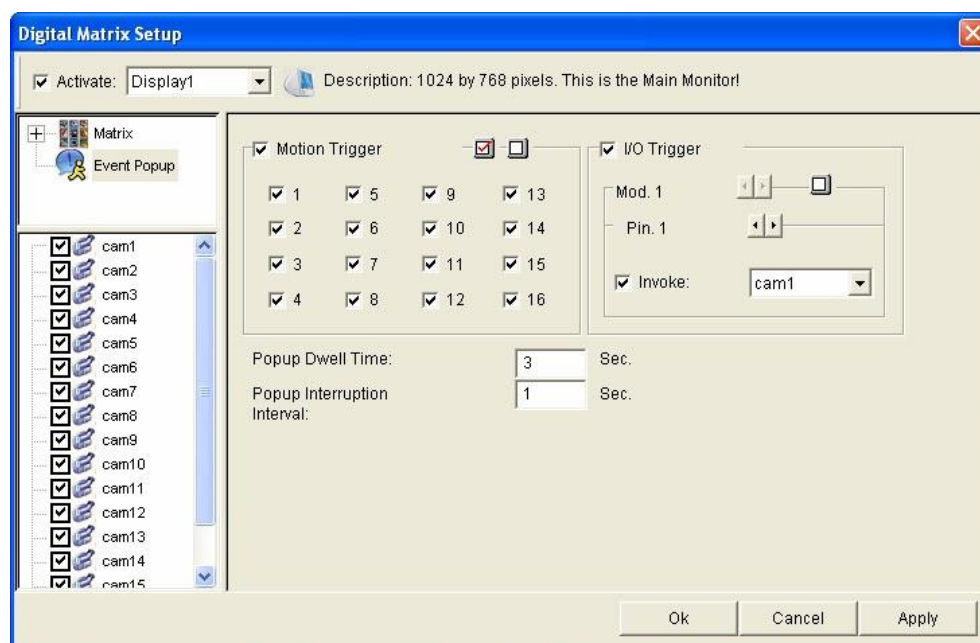

Figure 11-91
2. To configure pop-up alert, in the upper left column, click **Event Popup**. Figure 11-91 appears.